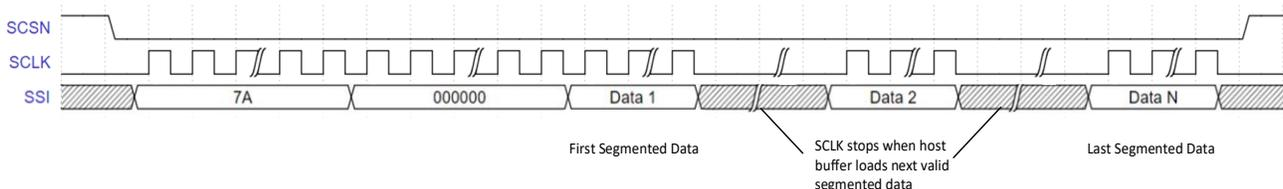

Figure 6.44. Segmented Bitstream Burst Timing Waveforms
3. Clock in the segmented bitstream. The segmented bitstream can be in any size. For example, you can split the full bitstream into 4096 bytes per data block and send them into the FPGA block by block. In between the loading of bitstream segments, SCLK must remain idle or stop toggling when a valid segmented bitstream is unavailable or the host buffer is in the process of loading the next valid segmented bitstream on the SSI interface (refer to Figure 6.44).